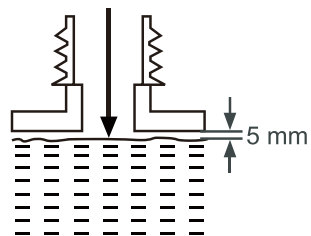

Fig. 9
4. Add correct fuel into the tank. Leave a minimum 5 mm of space between the top of the fuel and the inside edge of the tank to allow for expansion (Fig. 9).